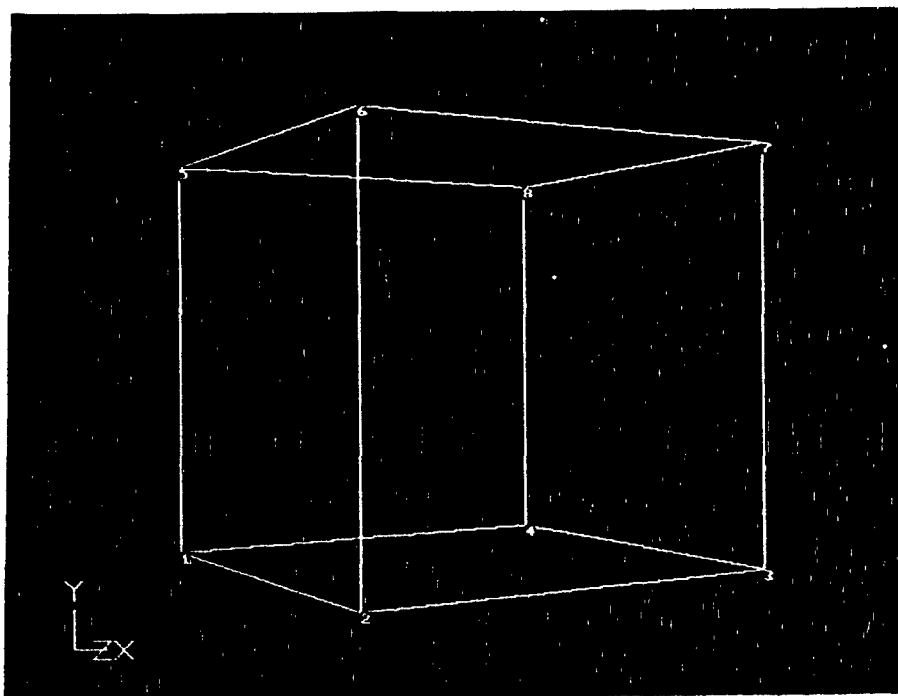

Figure 5-1. Draw Mode Picture of Cube (Observe numbered nodes)
5.3.1. The following is a step-by-step example of the creation of a simple part using UTILITY in the GEOM CHAN mode. The part to be created is a basic cube. The first step is to run the program by entering RUN [USER]UTILITY, and then GEOM CHAN COOR. The number of nodes to be entered is 8, as follows: 1 0 0 0, 2 0 0 2, 3 2 0 2, 4 2 0 0, 5 0 2 0, 6 0 2 2, 7 2 2 2, 8 2 2 0. The elements must be defined next, each consisting of four nodes. They are part of group 1, and are entered as follows: 1 4 3 2 1, 1 5 6 7 8, 1 1 2 6 5, 1 2 3 7 6, 1 3 4 8 7, 1 4 1 5 8. GEOM WRIT is entered next, the file being named A.GEO. Pictures of this part, both in the draw mode showing the nodes and in view mode showing it as a solid, are contained in Figures 5-1 and 5-2.